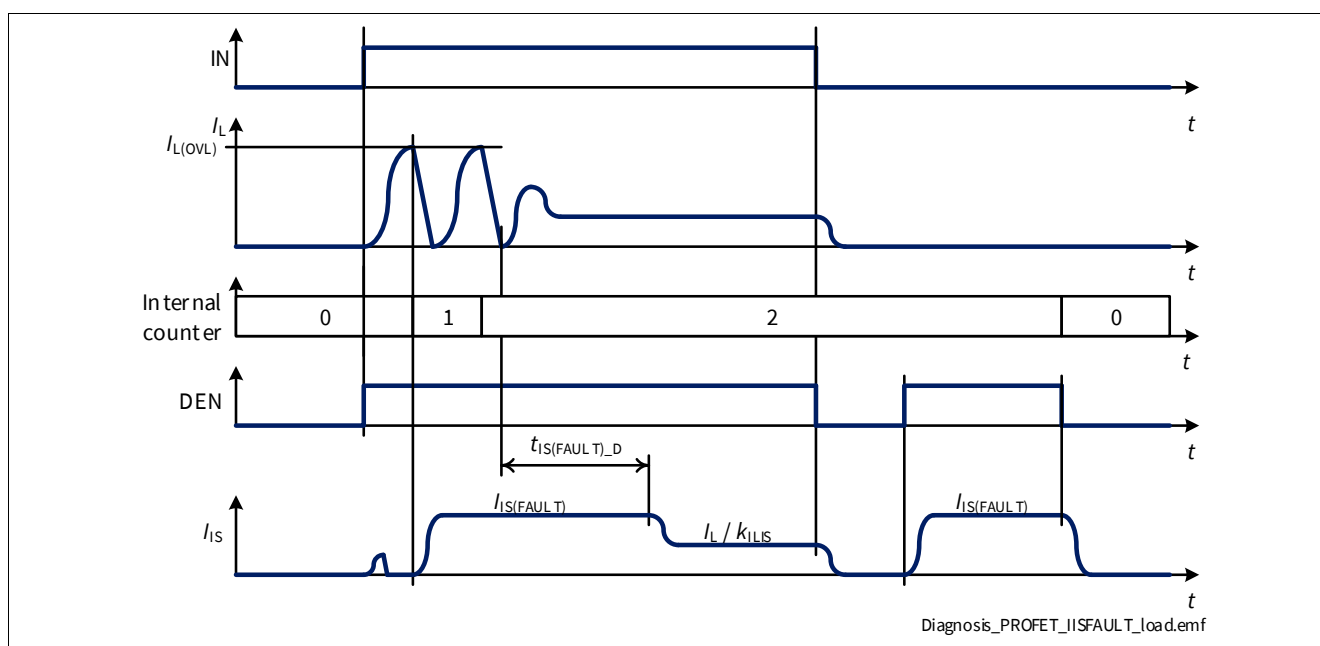

Figure 35 $I_{\text{IS}(\text{FAULT})}$ at Load Switching
- If the channel is ON and the number of retries is lower than “ $n_{\text{RETRY}(\text{CR})} + n_{\text{RETRY}(\text{CYC})} * n_{\text{RETRY}(\text{NT})}$ ”, the current $I_{\text{IS}(\text{FAULT})}$ is provided for a time $t_{\text{IS}(\text{FAULT})_D}$ after the channel is allowed to restart, after which $I_{\text{IS}} = I_{\text{L}} / k_{\text{ILIS}}$ (as shown in **Figure 35**). During a retry cycle (while timer t_{RETRY} is running) the current $I_{\text{IS}(\text{FAULT})}$ is provided each time the channel diagnosis is checked